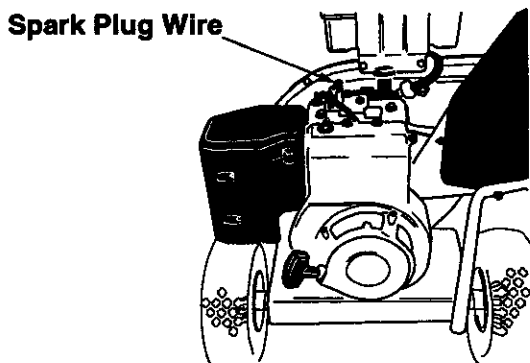

Figure 2
- Disconnect the spark plug wire and move it away from the spark plug before assembling the chipper-shredder. See Figure 2.